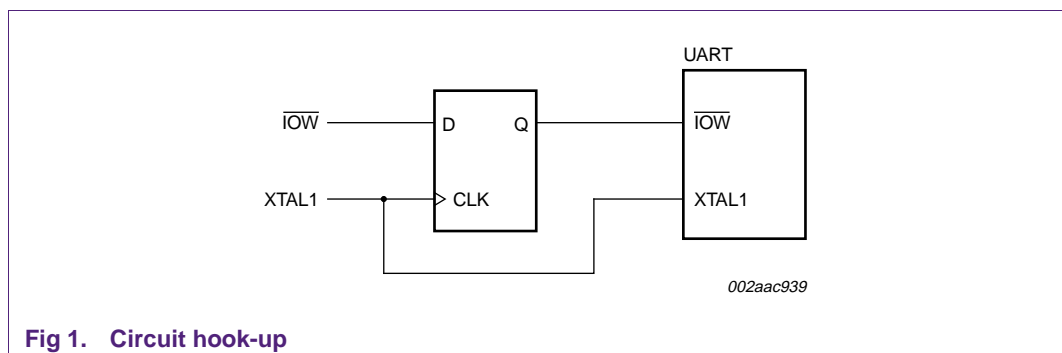

Fig 1. Circuit hook-up
2. The hardware work-around for this issue requires an external flip-flop to synchronize the  $\overline{\text{IOW}}$  pulse to the XTAL1 clock. XTAL1 is used to clock the D flip-flop. The  $\overline{\text{IOW}}$  signal from the processor is connected to the D input of the flip-flop, and the Q output of the D flip-flop is connected to the  $\overline{\text{IOW}}$  input of the UART. See Figure 1 for the circuit hook-up example.